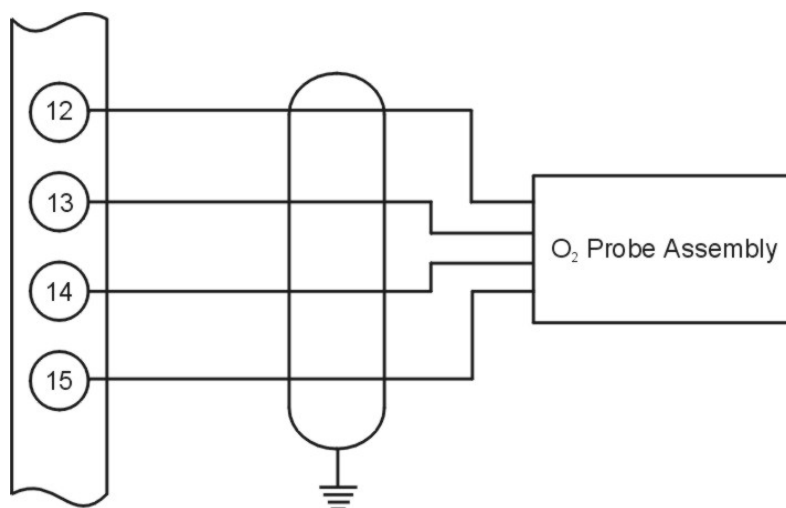

Figure 3-1: Oxygen Probe Assembly
*NOTE: The cable shield should be connected to ground only at one end of the cable (this applies to each probe connection). See Figure 3-1.*
Care must be observed to ensure that the probe leads are not inadvertently connected to the signal common (C) or to the power ground while energized. (See Figure 3-1)